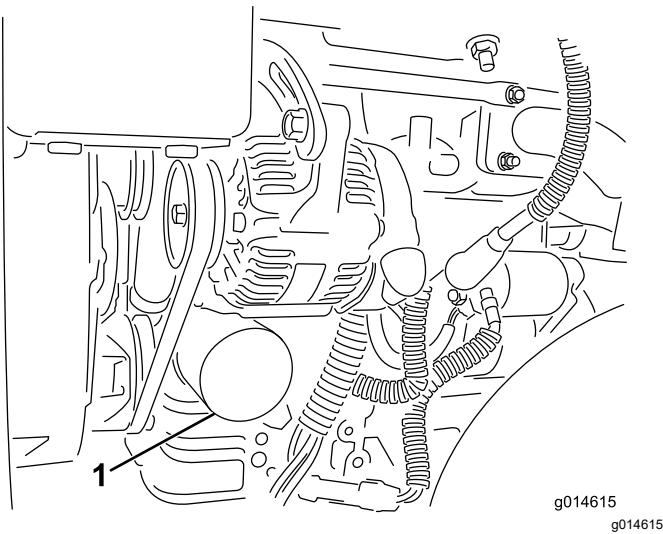

Figure 42
2. Remove the oil filter (Figure 42). Apply a light coat of clean oil to the new filter gasket.